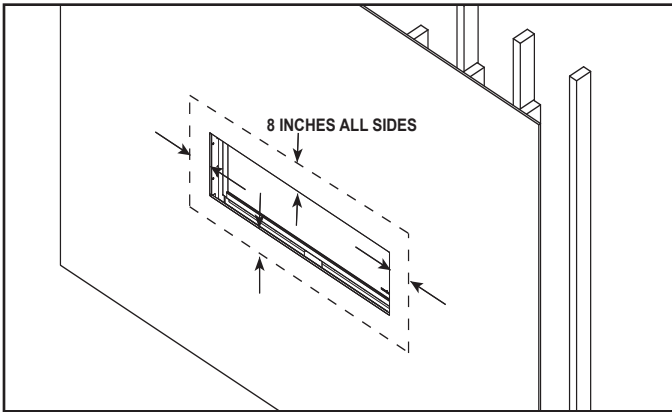

Figure 10.5 Feather Mud Evenly
3. Apply the sheetrock mud. When applying the mud, feather it evenly around the opening throughout the zone shown in Figure 10.5. A smooth, even surface, covering a wide area of the wall is desired for best results. For best results, follow the tips below.